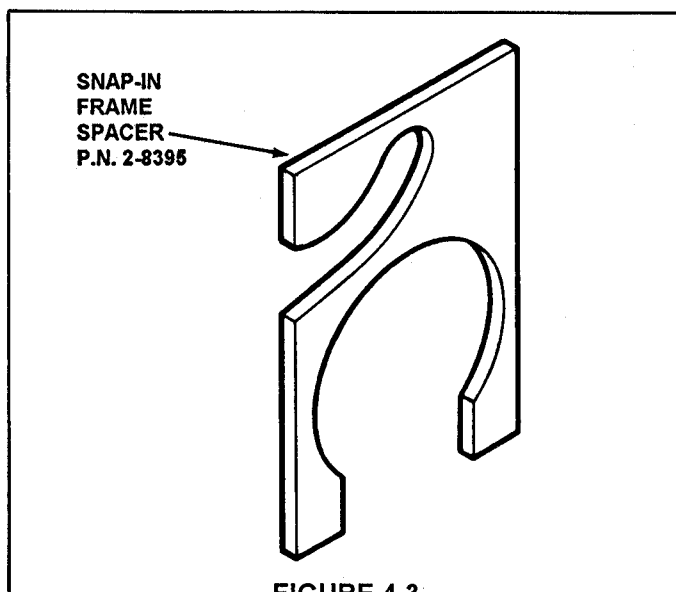

FIGURE 4.3
- c. Install required number of snap-in frame spacers behind channel pivot until the 1 1/4" distance between belt is maintained. See Figure 4.3.